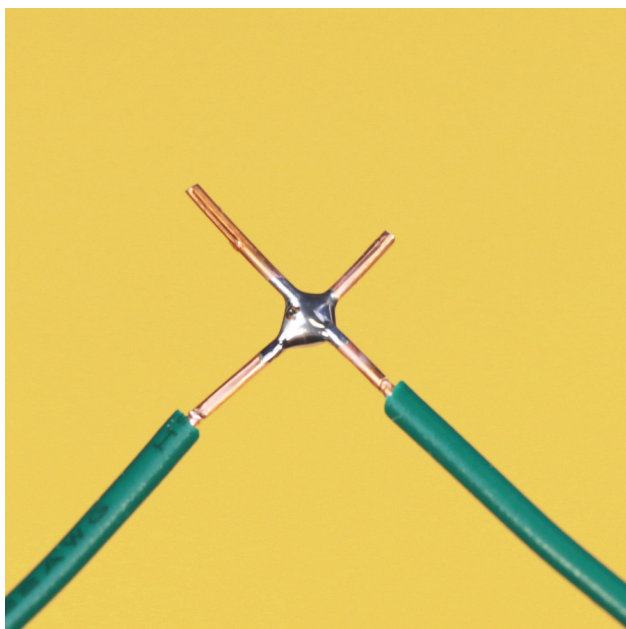

Figure 12-30. The solder forms a shiny blob that clings to the wires.
**Step 4.** In Figure 12-30, you see that the solder has formed a nice round blob. If you blow on it to cool it, you should be able to touch it within 10 seconds. The joint should be shiny, uniform, and rounded in shape